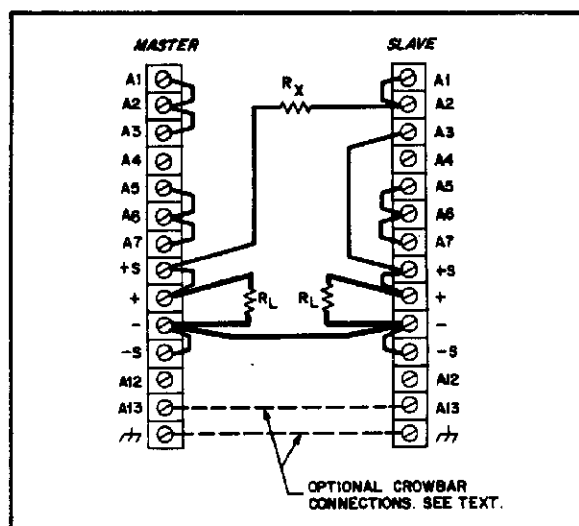

Figure 3-13. Auto-Tracking Operation of Two Units
**3-66** Figures 3-13 and 3-14 show the rear panel interconnections required to operate two or three supplies in the auto-tracking mode. This mode of operation allows two or three supplies that share a common negative output bus to power separate loads and have their output voltage simultaneously programmed by the voltage and current controls of a master supply. Unless their outputs are to be equal, the supply that is to have the greatest output voltage must be selected as the master. The output voltage of each slave supply is a constant percentage of the master's with the percentage for each slave established by a voltage divider consisting of  $R_X$  and the voltage control of the slave supply. Model numbers can be mixed in an auto-tracking configuration.
**3-72** In order to have all supplies in an auto-tracking combination crowbar simultaneously if any of them has an overvoltage condition, parallel their crowbar circuits as shown in Figure 3-13 or 3-14. Set the overvoltage potentiometer in each supply so that it trips at a point slightly above the voltage that supply will provide.